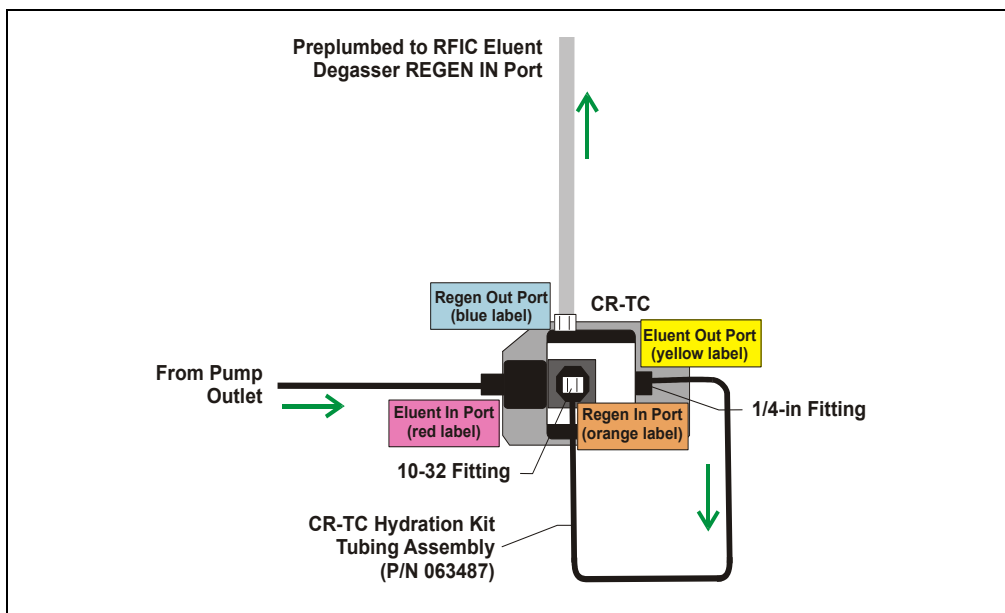

Figure 9-18. CR-TC Plumbing for Hydration
3. Refer to Figure 9-18 to plumb the four ports on the CR-TC for the hydration procedure.